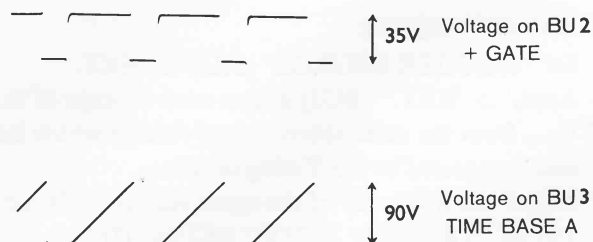

Fig. 66. Output wave-form of "+Gate" and "Time-base" busses
- The synchronous voltages of Fig. 66 should be available on output terminals BU2 and BU3.